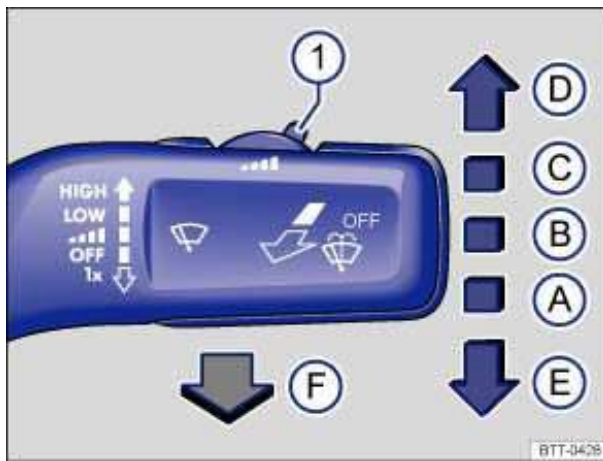

Fig. 71 Operating the front windshield wiper.
- Press the windshield wiper lever down briefly ⇒ fig. 71 \(E\) when the ignition is off.
Carefully fold the wiper arms back onto the windshield before driving! Switch the ignition on and press the windshield wiper lever down briefly ⇒ fig. 71 \(E\). The wiper arms move back to their original position.